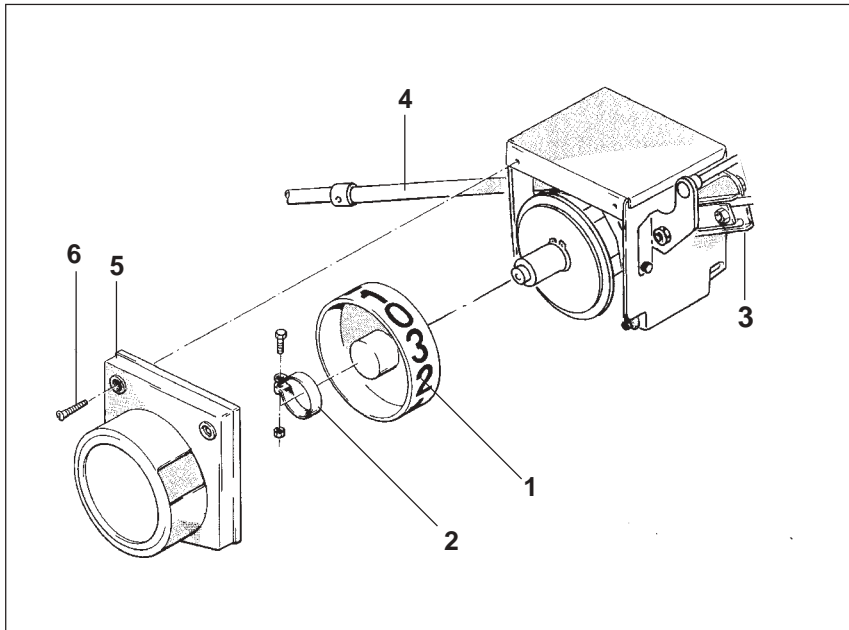

Fig. 26.58
- Fit figure display wheel (Fig. 26.58/1), as described in para. 26.11 after having applied the new figure sticker loosely onto the divider wheel with the aid of the clamp (Fig. 26.58/2) .
- Press lever (Fig. 26.58/3) downwards so often until the clamping tube (Fig. 26.58/4) is pulled and held in position. Hold protective cover (Fig. 26.58/5) to switch box and turn the figure display wheel (Fig. 26.58/1) until the figure “0” can be seen in the window of the protective cover.
- Clamp the figure display wheel (Fig. 26.58/1) with the clamp (Fig. 26.58/2) and fix the protective cover (Fig. 26.58/5) with two tin screws (Fig. 26.58/6) .